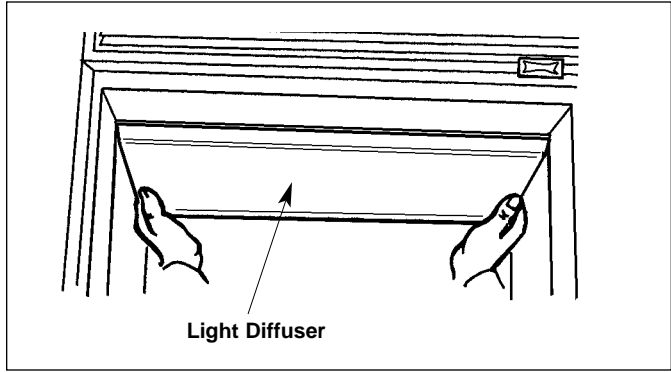

Figure 2-54. Light Diffuser
1. Remove the overhead light shield by grasping the back edge of the shield and pulling forward to release, then drop the front edge out of the channel. (Figure 2-54).